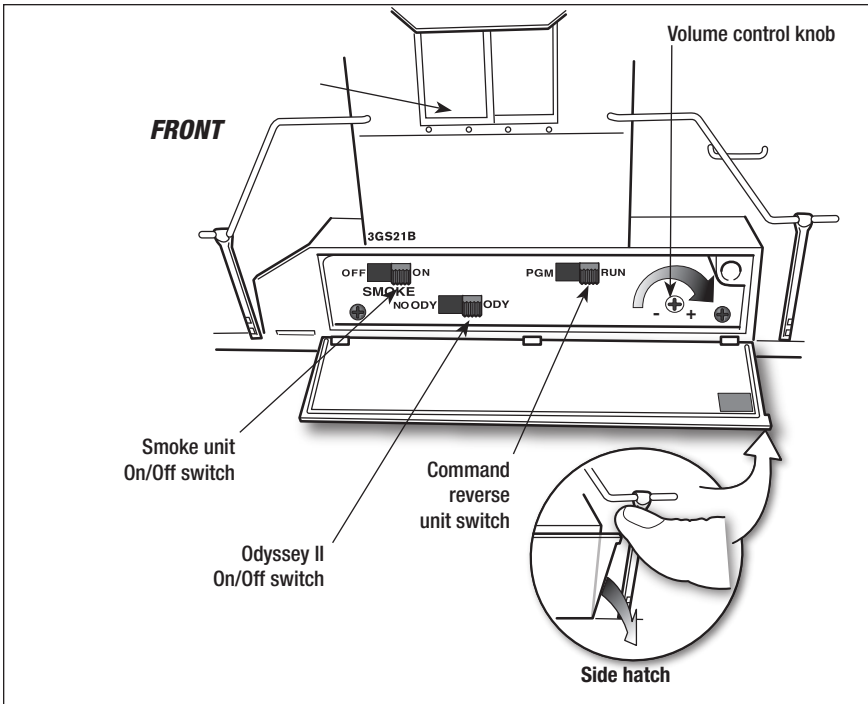

Figure 4. Locomotive switch locations
We recommend that you operate your LEGACY locomotive with Odyssey II Speed Control turned on. You may choose to operate your locomotive without speed control by placing the Odyssey II Speed Control System switch to the NO ODY position. See Figure 4 on page 8 for the location of the switch.
Use the **HORN** and **BELL** buttons on your transformer to activate those features. Adjust the volume using the volume control knob. Refer to Figure 4 on page 8 for the location of this control. For more information, please refer to the Conventional transformer operations section of this manual.
If you prefer to operate your locomotive without smoke, locate the smoke unit switch and slide it to the NO SMK position. Refer to Figure 4 on page 8 for the location of the switch.
The functions of your locomotive's switches are outlined below. Refer to Figure 4 for the location of the switches. *The instructions below are specific to this particular locomotive; note that available features (and switches) may differ from other locomotives and locomotive sets.*
- 1. Slide the Command reverse unit switch on your locomotive to the PGM position. See Figure 4 on page 8.**